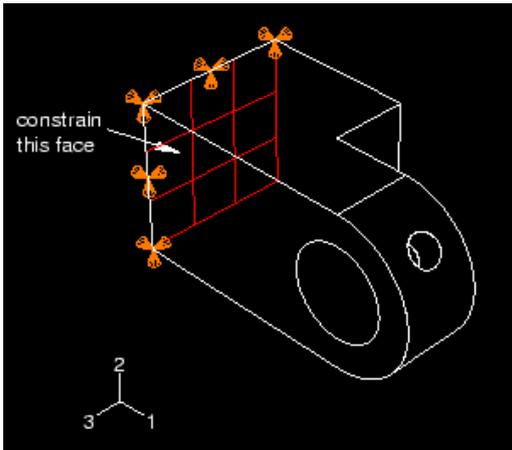

Figure C-40 One end of the hinge is constrained.
- A boundary condition called `Fixed` that constrains all degrees of freedom at the end of the hinge piece with the lubrication hole, as shown in Figure C-40.